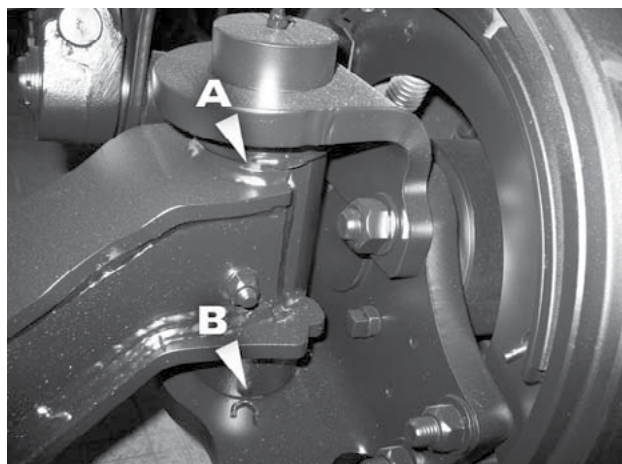

Figure 14. Kingpin Lubrication
4. Force the required lubricant into the upper and lower kingpin grease fittings until new lubricant flows from locations A and B. (See Figure 14)